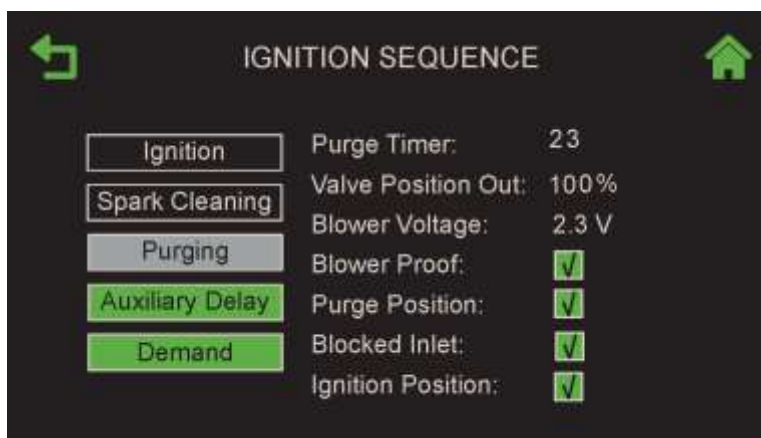
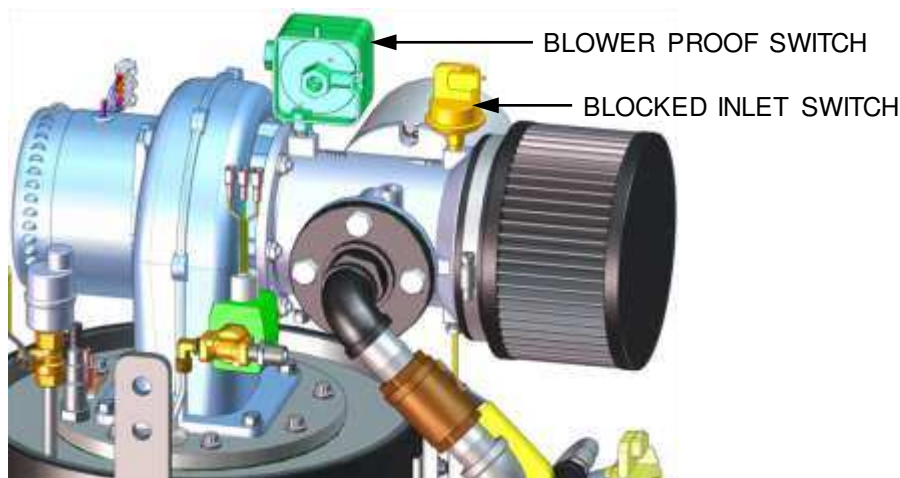

Figure 3-3: Ignition Sequence Screen – Purging
Figure 3-4a: BMK750 & 1000 Blower Proof Switch
5. Next, the Blower Proof and Blocked Inlet switches close (Figure 3-4a and 3-4b). On the Ignition Sequence screen, the **Purging** indicator turns grey while purging is underway (Figure 3-3), and **Purge Timer** displays the purge cycle's elapsed time in seconds.
- b) The Spark Cleaning cycle begins (default duration = 7 sec.) and the Ignition Sequence screen's **Spark Cleaning** indicator (Figure 3-3) turns grey. This cycle turns on the ignition transformer to produce a spark (with no gas flowing) to remove moisture and carbon buildup from the spark element. During this cycle the Controller displays the **Cleaning Igniter** status message.
- c) Following the Spark Cleaning cycle, power is applied to the gas Safety Shut-off Valve (SSOV). When the SSOV indicates the Gas Valve is OPEN (POC) and the Ignition Sequence screen's **Ignition** indicator (Figure 3-3) turns grey.